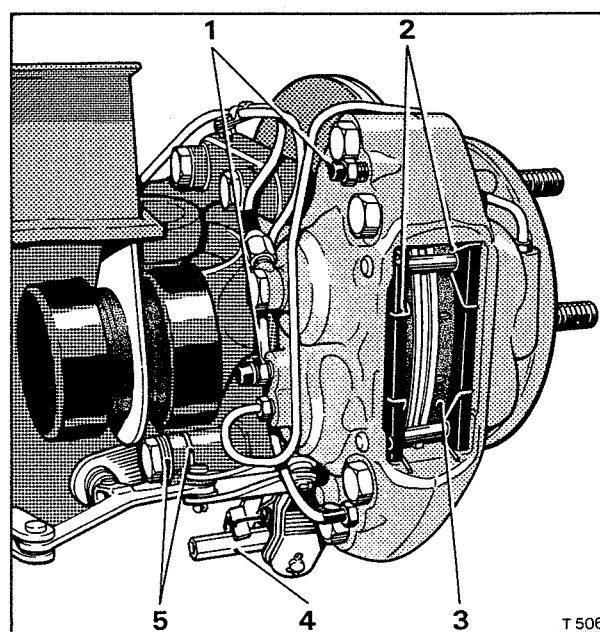

Fig. G38 Rear wheel brake caliper
4. Remove the spring clips from the two brake pad retaining pins (see Fig. G38) and withdraw the pins. Collect the anti-rattle spring clip from the rear of each brake pad.
8. Fit the new pads by reversing the removal procedure, ensuring that the anti-rattle spring clips and pad retaining pin clips are correctly located (see Fig. G38).
Rear brake caliper - To remove (refer to Fig. G38)